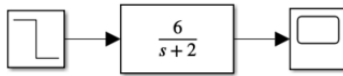
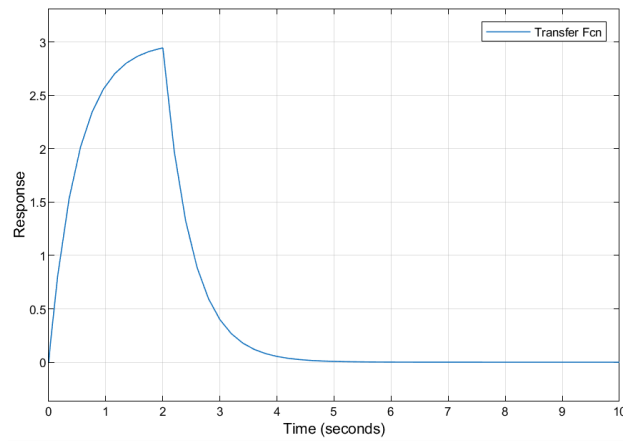

Figure 1: Simulink model of the open-loop step response
Figure 2: Open-loop step response
- (1.1) The open-loop step response of the system is shown in the Simulink model (Figure 1) below with the response shown in Figure 2.